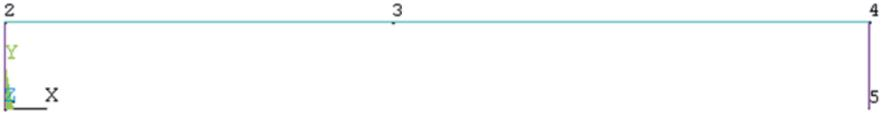

Fig. 8.82 Elements of the automobile suspension system model
- The elements should appear in the *Graphics Window*, as shown in Fig. 8.82.